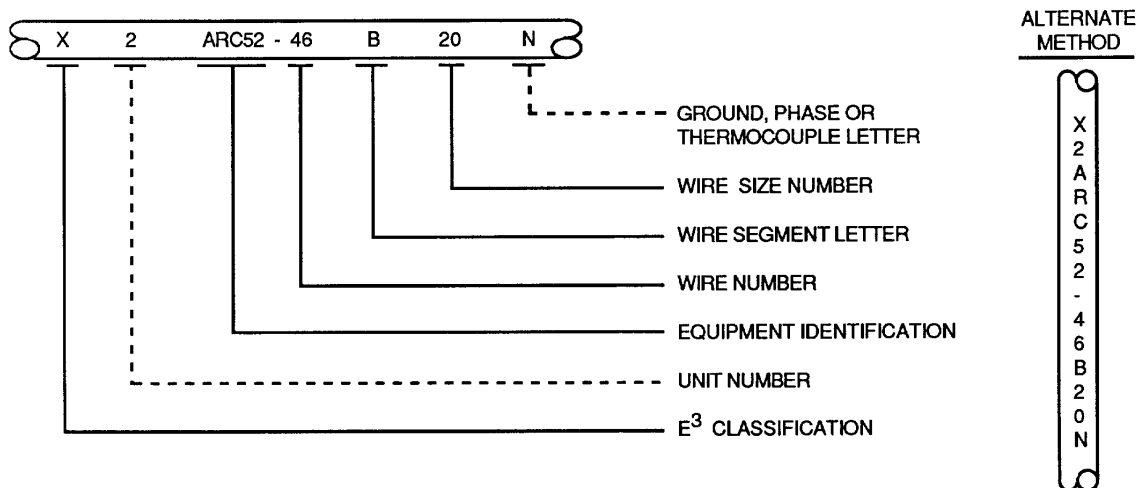

Figure 1. Wire Identification Coding (Circuit Function Letters R, S, T and Y)
- a. Circuit function is indicated with an equipment identification code (Figure 1).
6. **EQUIPMENT IDENTIFICATION CODE.** The equipment identification code is the portion of AN nomenclature following the /, but excluding the hyphen and suffix letters. For example, wires of an AN/APS-45 will be identified APS45, those of AN/ARC-52A will be ARC52 and those wires of MX94 will be MX94. These codes are used to identify the following equipment (Figure 1):
8. UNIT NUMBER. Unit numbers are used where two or more identical items of equipment are installed in the same vehicle. The unit numbers 1, 2, 3 etc. are used to differentiate between wires when it is desired that the equipment have the same basic identification (Figures 1 and 2).
9. WIRE NUMBER. The wire number is used to differentiate between wires in a circuit (Figures 1 and 2).
10. WIRE SEGMENT LETTER. A wire segment is a conductor between two terminals or connections. The wire segment letter is used to differentiate between conductor segments in a particular circuit. A different letter shall be used for wire segments having a common terminal or connection. Two permanently spliced wires do not require separate segment letters if the splice is used for modification or repair (Figures 1 and 2).
11. WIRE SIZE NUMBER. The wire size number identifies the size of the wire or cable. Coaxial cables do not have a wire size number. Thermocouple wires use a dash (-) in place of a wire size number (Figures 1 and 2).
12. GROUND LETTER. Any wire (unless otherwise specified) completing a circuit to the ground network of the aircraft electrical system without circuit malfunction will use the ground cable letter N as the wire identification code suffix. The N suffix will also identify all interconnecting ground leads in critical and sensitive electronic systems (Figures 1 and 2).
13. **PHASE LETTER.** Phase letters are used as a suffix to identify the phase of wires in the three phase power distribution wiring of AC systems (Figure 3 [b] and [c]). The letters A, B, and C will be used to indicate the phase sequence corresponding to T₁, T₂, and T₃ respectively. T₂ will be considered as the grounded phase for grounded delta systems and the wire will be identified with a letter N suffix (Figures 1 and 2).
14. **THERMOCOUPLE LETTER.** Thermocouple letters are used as a suffix to identify the thermocouple material. Two letter suffixes are used where space considerations dictate (Figures 1 and 2). The following thermocouple letter suffixes shall be used as applicable: